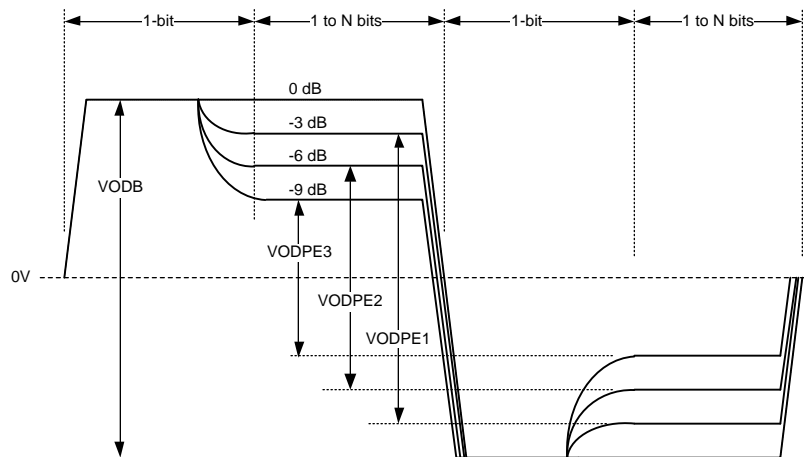

Figure 8. Driver Pre-Emphasis Differential Waveform (Showing All 4 Pre-Emphasis Steps)
The output driver has pre-emphasis (driver-side equalization) to compensate the transmission loss of the backplane that it is driving. The driver conditions the output signal such that the lower frequency and higher frequency pulses reach approximately the same amplitude at the end of the backplane and minimize the deterministic jitter caused by the amplitude disparity. The DS40MB200 provides four steps of user-selectable pre-emphasis ranging from 0, -3, -6 and -9 dB to handle different lengths of backplane. Figure 8 shows a driver pre-emphasis waveform. The pre-emphasis duration is 200 ps nominal, corresponding to 0.8 unit intervals (UI) at 4Gbps. The pre-emphasis levels of switch-side and line-side can be individually programmed.